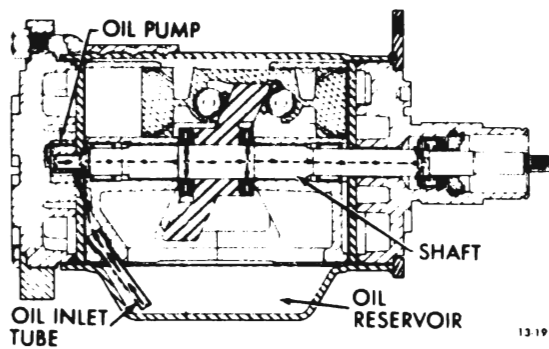

Figure 13-30 Compressor Oil Flow
3. Oil Pump - An internal tooth outer rotor and external tooth inner rotor comprise the oil pump. The pump works on the principle of a rotary type pump. Oil is drawn up from oil reservoir in underside of shell through the oil inlet tube (see Figure 13-30) and circulated through the system via a 3/16 inch diameter oil passage through the shaft center and also four 5/64 inch diameter holes drilled perpendicular to the shaft. The inner rotor is driven by the shaft.